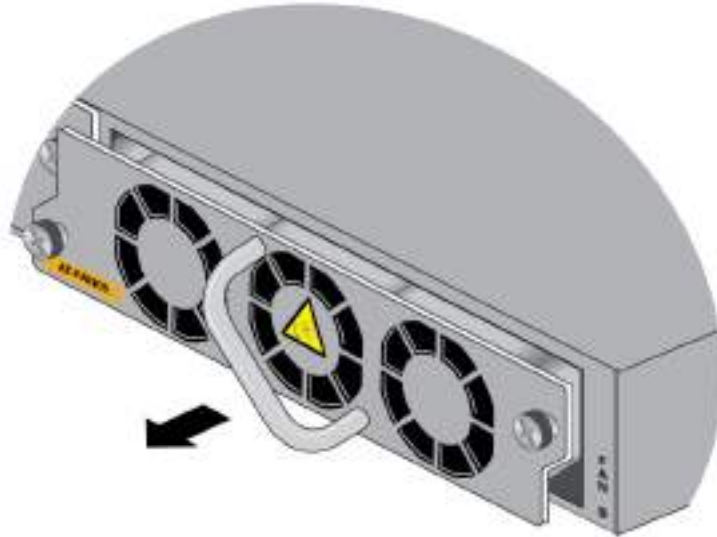

Figure 139. Disconnecting the FAN05 Module from the Switch
2. Carefully pull on the handle to disconnect the line card from the internal connector in the switch. Refer to Figure 139.